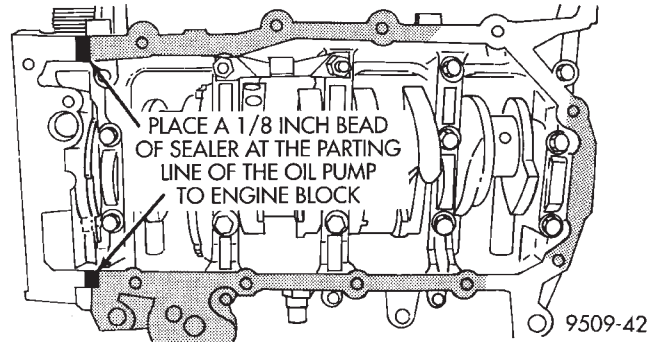

Fig. 87 Oil Pan Sealing
- (1) Apply Mopar® Silicone Rubber Adhesive Sealant or equivalent at the oil pump to engine block parting line (Fig. 87).
- (2) Install a new oil pan gasket to pan.
- (3) Install pan and tighten screws to 12 N·m (105 in. lbs.).
- (4) Install oil filter and adaptor.
- (5) Install transaxle lower dust cover.
- (6) Install powertrain bending strut.
- (7) Install front engine mount and bracket.